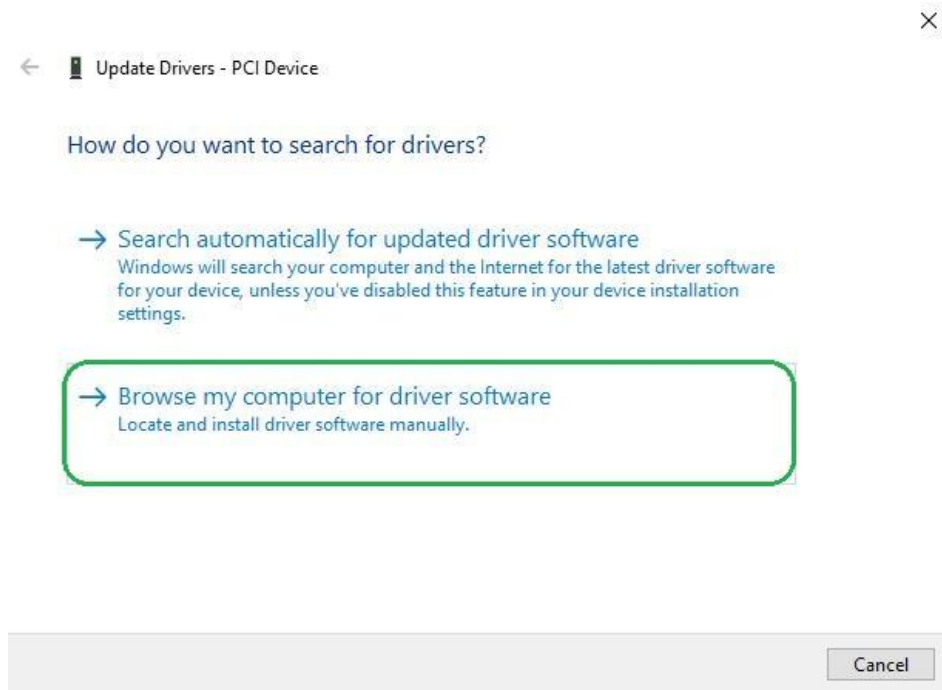

Figure 6-4 Dialog of Browse my computer for driver software
8. In the **How do you want to search for driver software** dialog, click **Browse my computer for driver software** item, as shown in Figure 6-4.